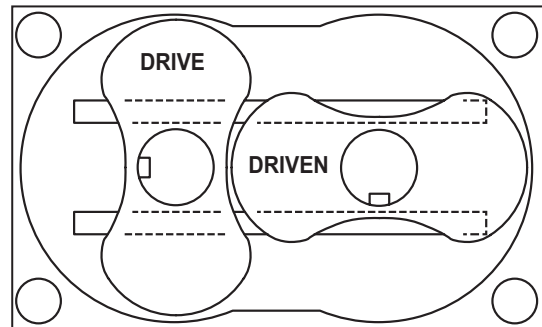

Figure 9 - Rotors in Housing
4. Place non-drive end plate on 6" × 6" blocks with the solid side up. The end plate must be blocked up so rotor shafts will not touch floor when they are installed. Grease and install O-ring (176) in end plate groove. Install housing (3) making sure dowel pins are in place. Do not bolt in place at this time.
5. Lay two pieces of steel approximately 2" × 2" × 1/8" thick at the bottom of the housing as shown in Figure 9 with the end (long shafts) up. The rotor lobes will be above the end of the housing which is necessary when assembling this end.
6. Grease and install O-ring (176) in groove of gear end plate. Use sufficient grease to hold it into place when the end plate is turned over.
7. Install the end plate on the rotors and housing. The end plate will rest on the ends of the rotor lobes, and there will be a space between the housing and the plate. Install all cap screws (301) and tighten end plate to housing until tight.
8. Use six cap screws (301) equally spaced and secure non drive end plate against shims at bottom end of rotors. Do not torque these bolts.
9. Grease O-ring (331) and start onto rotor shaft.